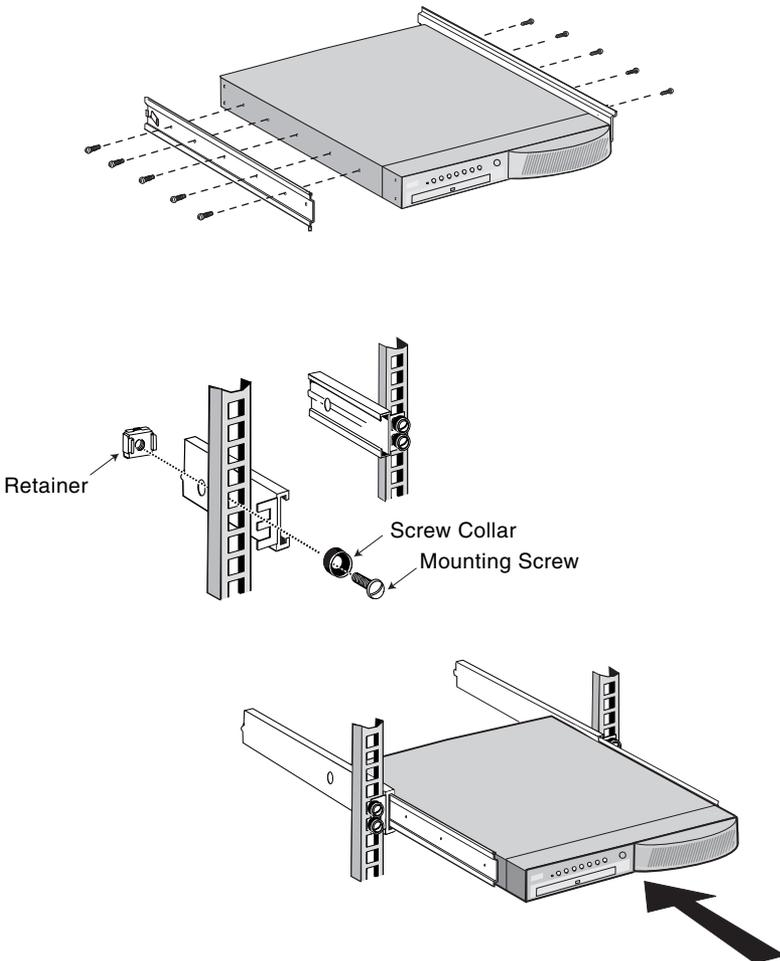

Figure 9. Standard 19-inch Rack Installation
2. Mount the two side rails to the WebEngine chassis (Figure 9).